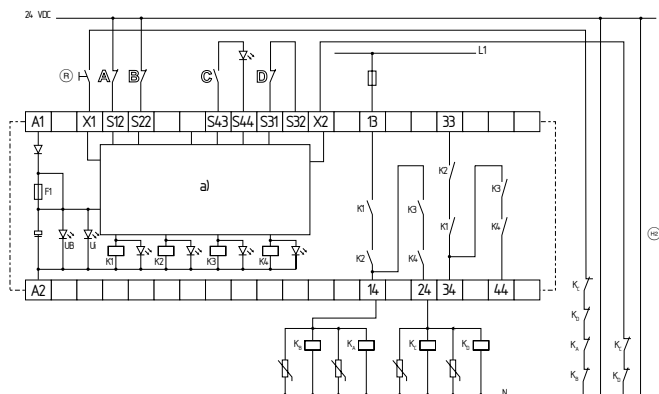

Fig. 3: SRB 400CA, 400CA/T, SRB 400CA/Q, SRB 400CA/QT
**Dual-channel control, shown for an emergency stop circuit; with two contacts A and B and a guard door monitor with two contacts C and D, where at least one is a positive break contact; with external reset button  $\text{\textcircled{R}}$  (related on the switch-off level 1) (see Fig. 3)**